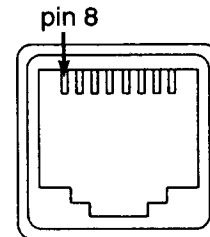

Figure 8-1. J2 Programming Connector, Front View
2. Using a DVM or oscilloscope, adjust the **Audio** control until 470 mV rms (1.33V p-p) is present at pin 8 of the ZR330 programming connector J2 on the front of the ZR330 (refer to Figure 8-1), or on either pin of JP5 inside the ZR330.